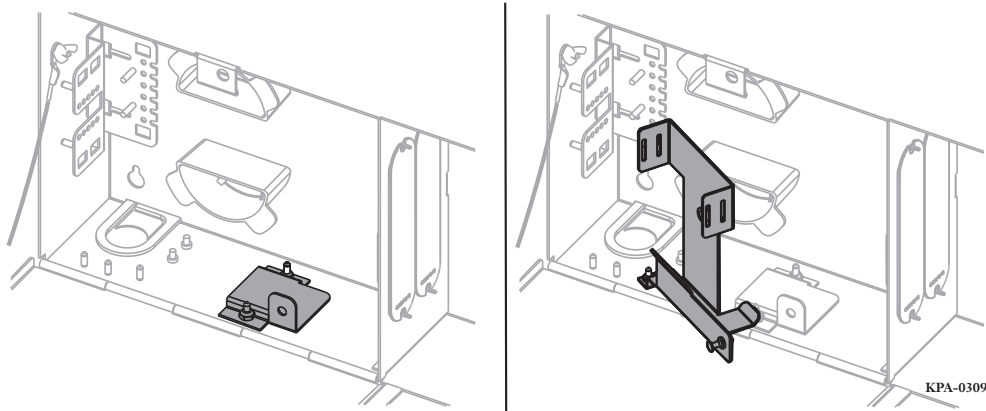

Figure 3 — Install Bracket and Holder (Cable not shown for clarity.)
Step 1: Attach the bracket onto the wall of the housing using two locknuts (Figure 3).